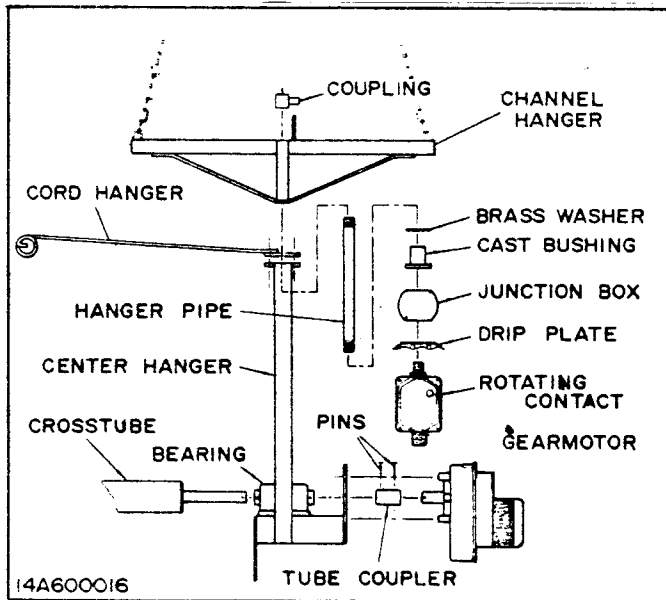

FIG. 6 - CENTER HANGER ASSEMBLY
1. Slide shaft of crosstube shown in Fig. 6 through bearing. Loosely bolt bearing to center hanger with 4-3/8" x 1" bolts.
3. Connect gearmotor shaft to crosstube shaft using 1" tube coupler and 2 - 1/4" x 1-1/2" picker pins. Secure pins with 2 cotter pins. After alignment is completed, tighten bearing in place. Fig. 6.
6. Slide channel hanger over hanger pipe and thread coupling onto pipe. Fig. 6. Thread liquid tite elbow (not included) into top of coupling. Make sure to seat threads properly and to tighten well.
1. Bolt cord hanger to top of center hanger with 2 - 3/8" x 1" bolts. IMPORTANT: Position cord hanger above and behind direction of travel of crosstube to keep cords away from augers. Fig. 6.